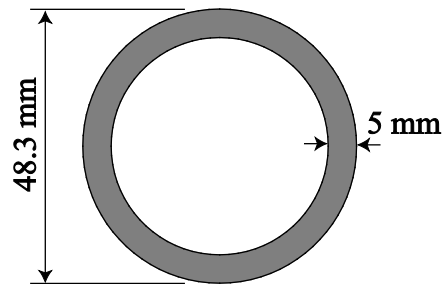

Figure 7
- † 7. (a) Using the result obtained in the lectures for the second moment of area of a "solid" circle about a diametral axis obtain the value of I for the cross-section of a hollow tube, as shown in Figure 7.